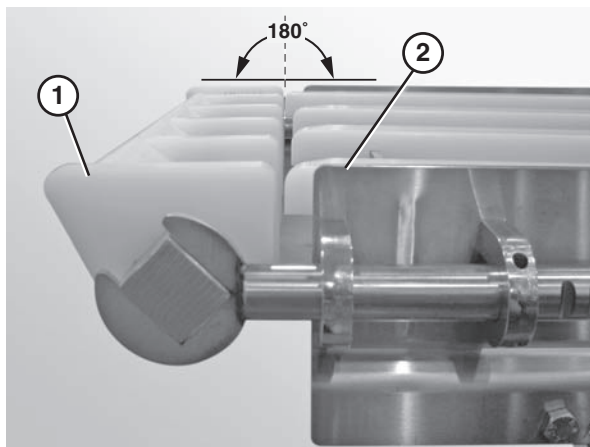

Figure 23
5. Ensure that the nose bar pucks (**Figure 23, item 1**) are in line with the conveyor frame (**Figure 23, item 2**).